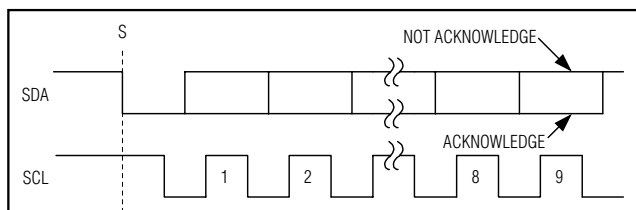

Figure 6. Acknowledge Bits
Data transfers are acknowledged with an acknowledge bit (A) or a not-acknowledge bit ($\bar{A}$). Both the master and the MAX1236–MAX1239 (slave) generate acknowledge bits. To generate an acknowledge, the receiving device must pull SDA low before the rising edge of the acknowledge-related clock pulse (ninth pulse) and keep it low during the high period of the clock pulse (Figure 6). To generate a not-acknowledge, the receiver allows SDA to be pulled high before the rising edge of the acknowledge-related clock pulse and leaves SDA high during the high period of the clock pulse. Monitoring the acknowledge bits allows for detection of unsuccessful data transfers. An unsuccessful data transfer happens if a receiving device is busy or if a system fault has occurred. In the event of an unsuccessful data transfer, the bus master should reattempt communication at a later time.